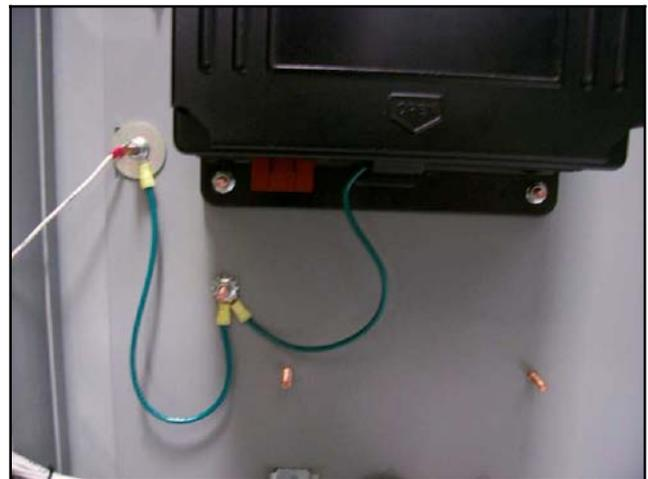

Figure 26 Ground Lead Connections
21. See Figure 26 for ground connections. Use green grounding lead LK-1212-1515 to connect the ground stud on the conversion panel to the ground lug on the door. Using lock washer X-22-12, connect the ground wires to the ground stud on the door. Place the grounding wires between the washer and the nut.